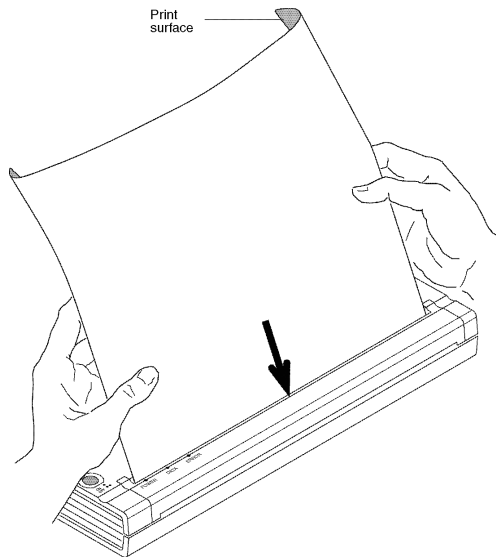

Figure 14. Inserting paper
2. Press the paper gently into the printer's input slot until the roller pulls it into the starting position, then let go. See Figure 14.